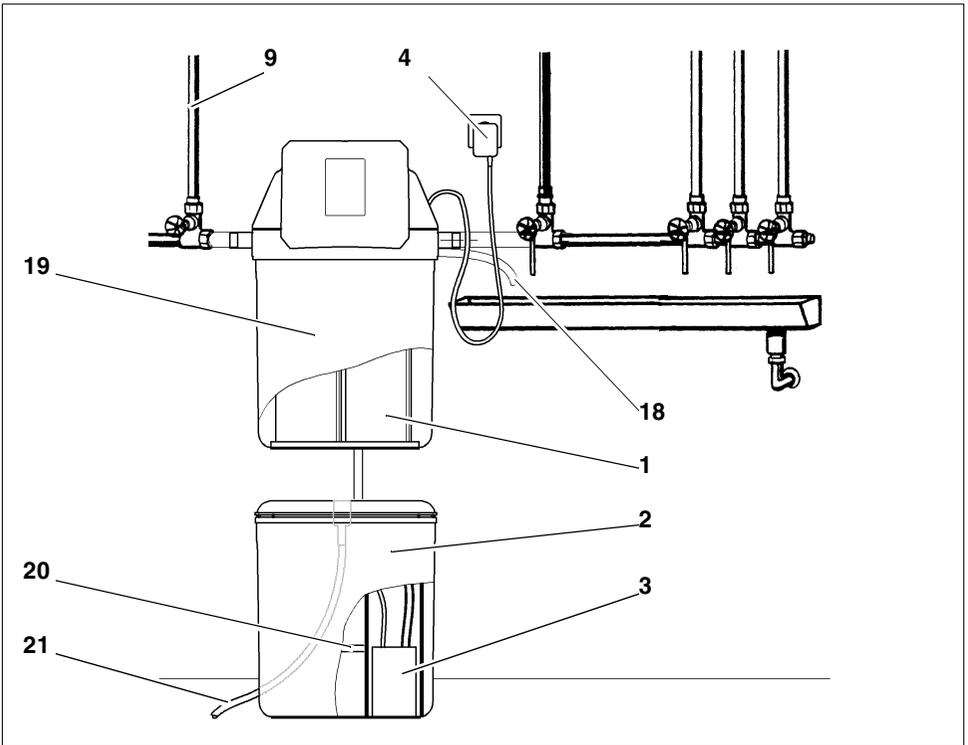
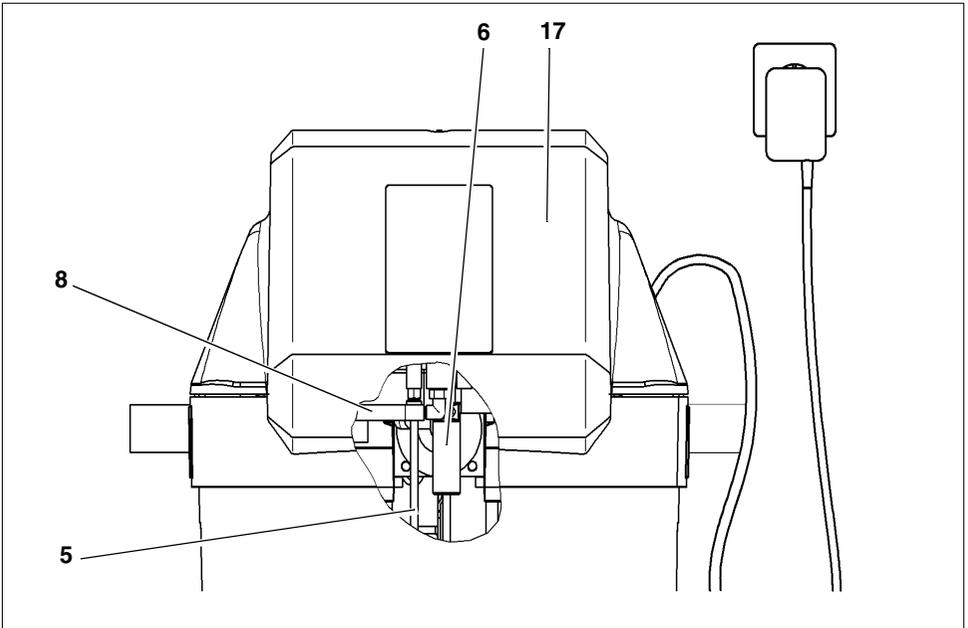
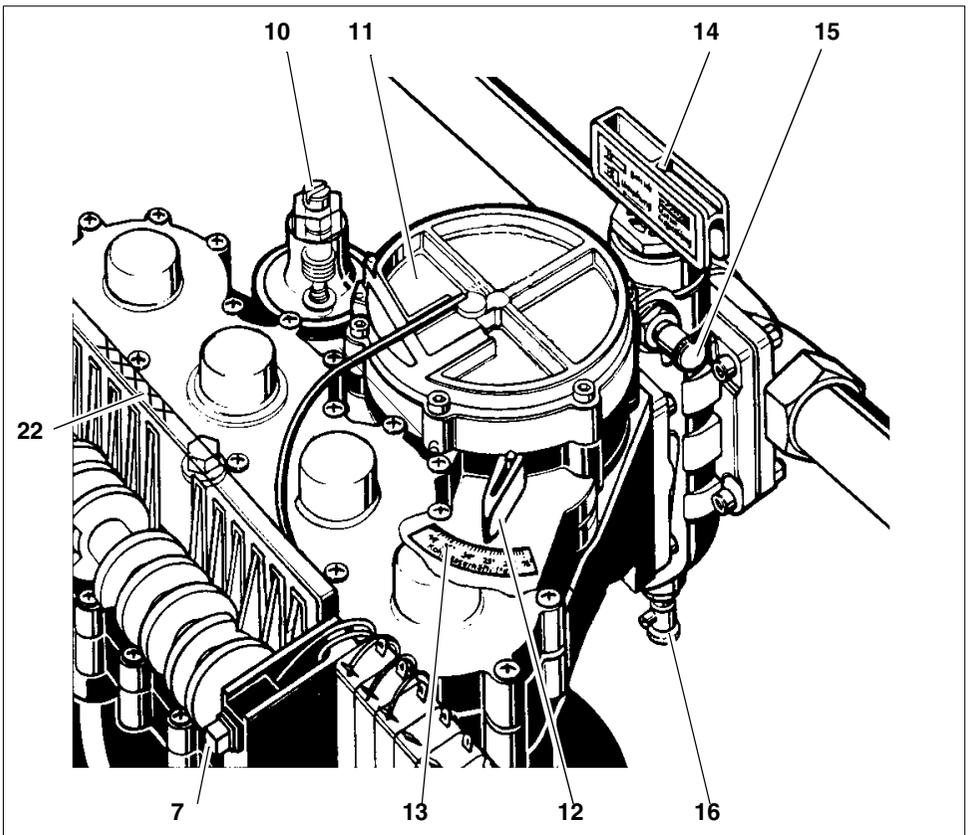

Fig. 10: Functional description
Fig. 11: Functional description
Fig. 12: Functional description
An adequately dimensioned wastewater connection (e.g. floor drain) to DIN 1986 must be available for the wastewater and the back-up overflow hose (21)(see Fig. 10).
- Place approx. 5 litres of water in the salt container (2) (see Fig. 10).
- Remove the cover (17).
- Enter the installation date in the inside of the cover (17).
- Adjust the raw water hardness (°e) using the adjusting lever (12) and the scale (13) for raw water hardness. The value depends on the installation location. If the raw water hardness fluctuates the higher value should be set.
- Adjust the mixed water hardness using the setting screw of the blending (10) (see chapter on “Setting the required mixed water hardness”)
See Fig. 10), Fig. 11) und Fig. 12).